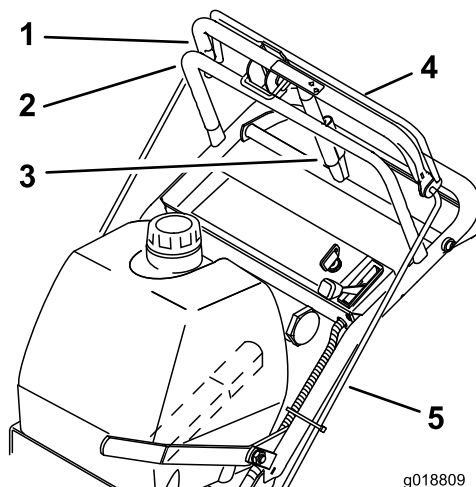

Figure 21
1. With the wheel drive fully engaged, check the gap between the upper control bar and the fixed bar. The gap needs to be approximately 25 to 32 mm (1 to 1-1/4 inches); refer to Figure 21.